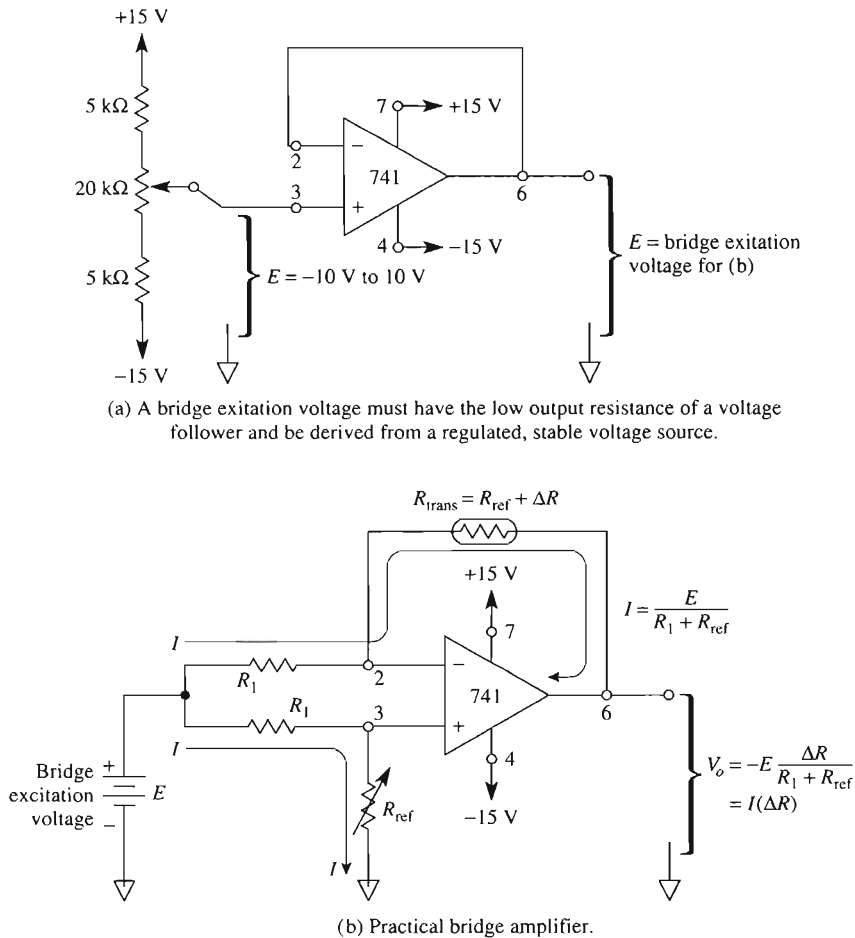

FIGURE 8-18 This bridge amplifier outputs a voltage that is directly proportional to the *change* in transducer resistance.
Some transducers can be connected into a lower-parts-count signal conditioning circuit called a bridge amplifier. An op amp, four resistors, and a transducer form the basic bridge amplifier in Fig. 8-18(b). The transducer in this case is any device that converts an environmental change to a resistance change. For example, a *thermistor* is a transducer whose resistance decreases as temperature increases. A *photoconductive* cell is a transducer whose resistance decreases as light intensity increases. For circuit analysis, the transducer is represented by a resistor R plus a *change* in resistance ΔR . R is the resistance value at the desired reference, and ΔR is the amount of change in R . For example, a UUA 41J1 thermistor has a resistance of 10,000 Ω at a reference of 25°C. A temperature change of +1° to 26°C results in a thermistor resistance of 9573 Ω . ΔR is found to be negative from
To operate the bridge, we need a stable bridge voltage E , which may be either ac or dc. E should have an internal resistance that is small with respect to R . The simplest way to generate E is to use a voltage divider across the stable supply voltages as shown in Fig. 8-18(a). Then connect a simple voltage follower to the divider. For the resistor values shown, E can be adjusted between +10 and -10 V.
A basic low-parts-count bridge circuit is presented in Fig. 8-18(b). Resistors R_1 are 1% low Tempco (metal-film) resistors. Current I is constant and set by R_1 , R_{ref} , and E . That is, $I = E/(R_1 + R_{\text{ref}})$. Note that transducer current is *constant* and equal to I because the voltage drops across both R_1 resistors are equal ($E_d = 0$ V).
The resistor from (+) input to ground is always chosen to equal the reference resistance of the transducer. We want V_o to be zero volts when $R_{\text{trans}} = R_{\text{ref}}$. This will allow us to calibrate or check operation of the bridge. For Fig. 8-18(b), ΔR is the input and V_o is the output. The output–input relation is given by
2. Check that the replacement transducer R_{ref} equals the value of R_{ref} [from (+) input to ground in Fig. 8-18(b)] within 1%.
3. *Predict the voltage–temperature characteristics.* We shall select the bridge circuit of Fig. 8-18 because it converts a resistance change ΔR into an output voltage [see Eq. (8-14)].
In some applications it is necessary to have one terminal of the transducer connected to ground. The standard technique is shown in Fig. 8-20(a). Note that current I depends on transducer resistance (in Figs. 8-18 and 8-19, the current was constant). Note also that V_o is not linear with ΔR because ΔR appears in the denominator of the equation for V_o versus ΔR . Finally, in contrast with Design Example 8-10, if E_i is positive and T_{ref} is at the low end of the scale, V_o goes negative for negative values of ΔR . That is, if R_{trans} is a thermistor, V_o goes more negative as temperature increases.